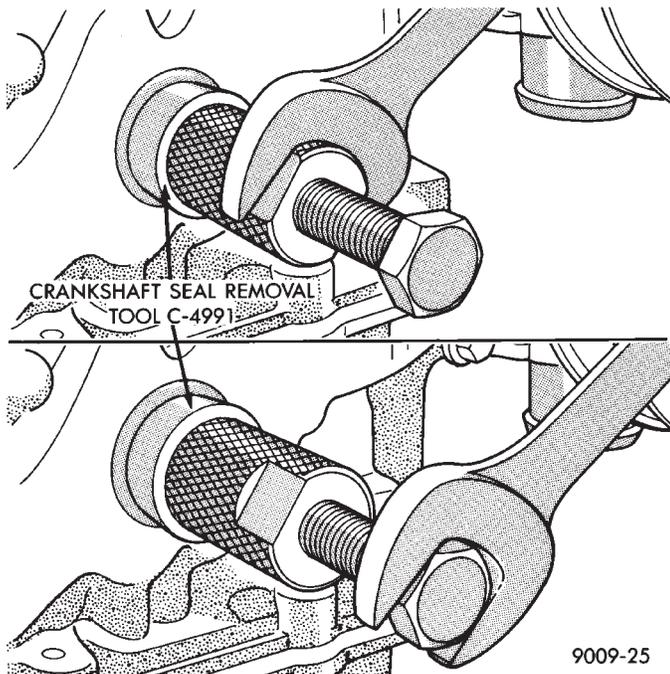

Fig. 9 Removing Crankshaft Oil Seal
(4) Using Tool C-4991 to remove oil seal (Fig 9). Be careful not to damage that crankshaft seal surface of cover.